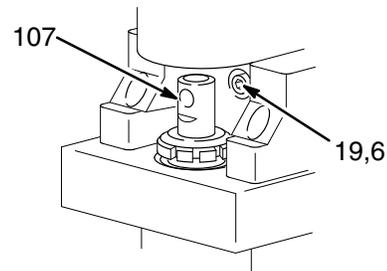
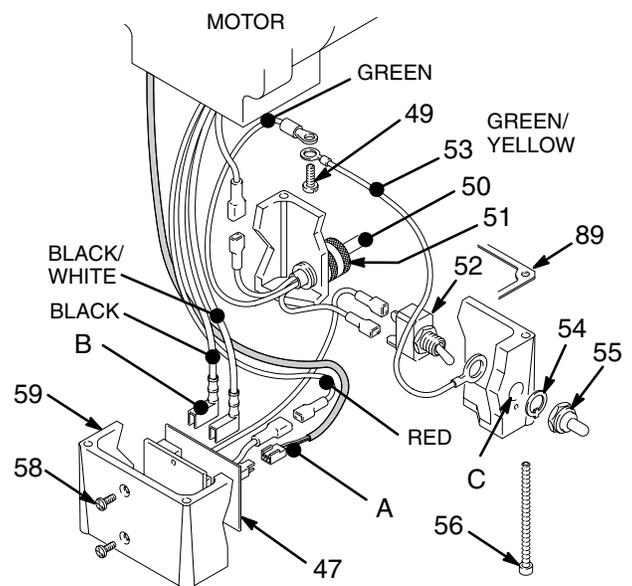

Fig. 20
Fig. 22
3. Remove the screws (56) and lower the junction box (59). Disconnect the motor wires and the pressure control wire (A) from the motor start board. Refer to Fig. 22 on page 23.
4. Remove the front cover (13).
5. Turn the displacement pump rod (107) so the pin hole aligns with the bottom drive housing screw (19). See Fig. 20. Remove the three drive housing screws and lockwashers (19,6). Also see Fig. 21.
6. Remove the two motor screws (5) and the lock washers (6).
7. Tap the lower rear of the drive housing (11) with a plastic mallet to loosen the motor. Pull the drive housing straight off the motor while guiding the harness (A) from the motor. Do not allow the gear (16) to fall. Read the CAUTION on page 24.
8. Remove the two screws (46) and lift the motor off the base (66).
9. Align the new motor with the base and reinstall the screws (46).
11. Connect the wires in the junction box. Refer to Fig. 22 on page 23. Install the junction box.
12. Connect the piston rod (107) to the drive housing; see page 21, **Installing the Pump**, Step 2 and the WARNING following it.
NOTE: See Fig. 22 for this procedure.